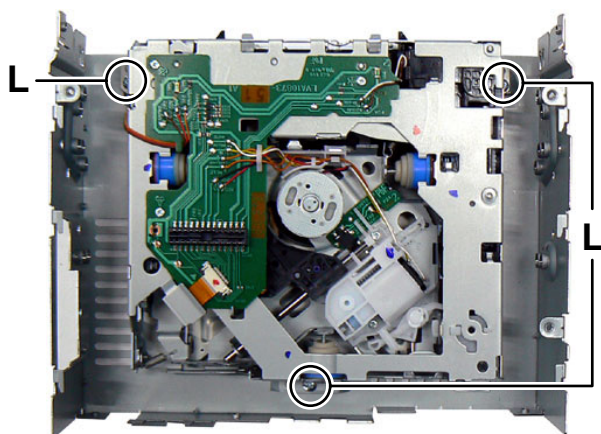

Fig.6
3.1.4 Removing the CD mechanism (See Fig.6)